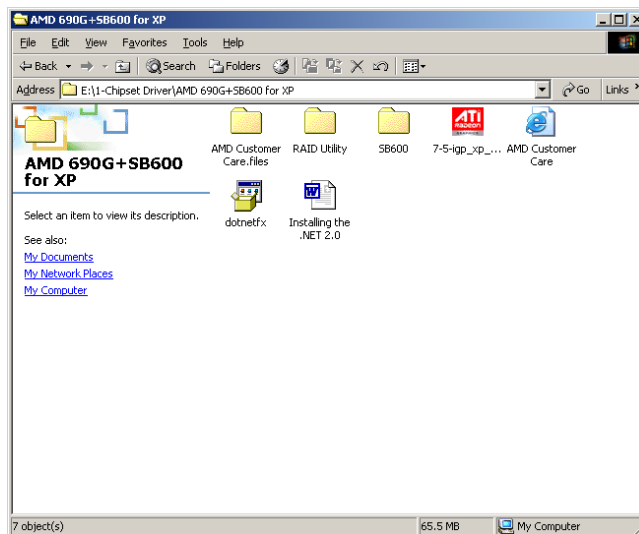

Figure 7-28: Chipset Drivers
Step 4: The screen in **Figure 7-28** appears.
Step 5: Open the **RAID Utility** from directory in **Figure 7-28**.